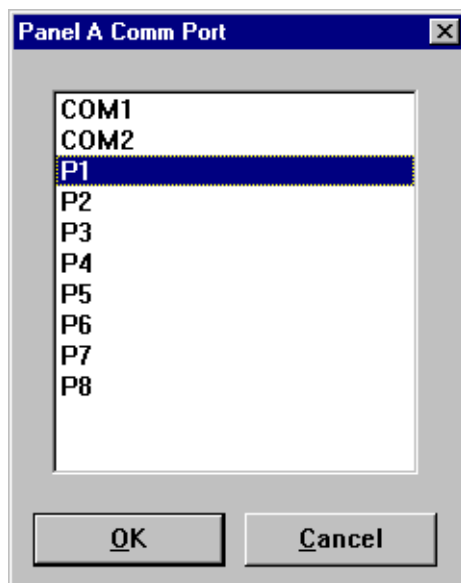

Figure 76. Comm Port dialog box
2. Choose **Controller | Comm Port** to open the Controller Setup dialog box. An example of this dialog box is shown in Figure 76.
9. Choose **Controller | Comm Port** to open the Communication Port dialog box (see Figure 76 on page 142).